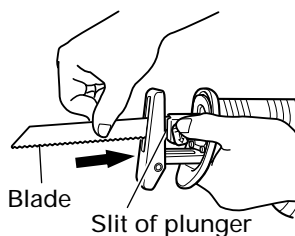
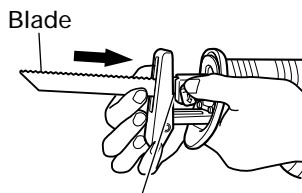

Fig. 7
Fig. 8
- (3) Insert the saw blade all the way into the small slit of the plunger tip with the lever pushing. You can mount this blade either in the upward or downward direction. (Fig. 7, Fig. 8)